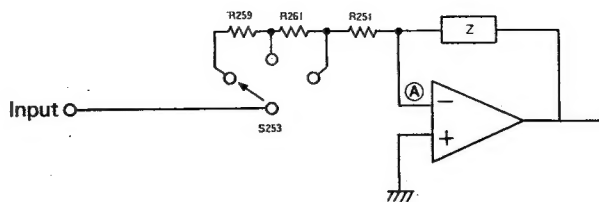

Fig. 10
In the circuit shown in Fig. 10, the voltage gain is adjusted by changing the input resistance by selecting a suitable one from input resistors R259, R261 and R251 (0 dB, -6 dB and -12 dB). Point A in Fig. 10 is the imaginary ground point. Thus, the input signal voltage is converted into a current proportional to the reciprocal number of the input resistance value. Then, it is converted into a voltage with feedback impedance (Z) again. In this manner, voltage amplification is performed.